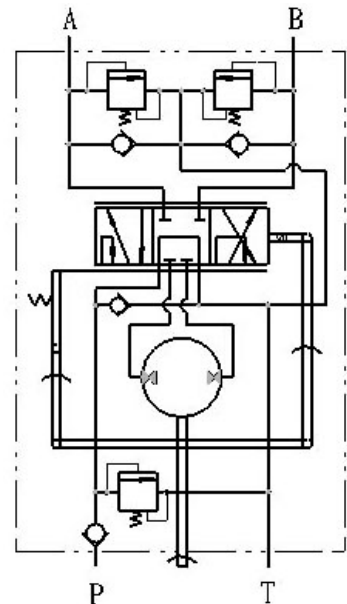

FIG 6-11 Drawing
Fig.6-11 tread adjustment for rear wheels
Rear wheels tread can be adjusted steplessly by changing and turning the fixed position of driving wheel hub on driving shaft. It can also carry out step-by-step regulation by turning rim assembly or exchanging right and left driving wheels. Adjusting range of the first step tread is L1~L2 and the L2 is the normal tread used. Adjusting range of the second step tread is L3~L4 (see fig.6-11). Values of L1~L4 see chapter 1 <Main Technical Specification of Tractor>.
2、 Drawing (fig. 6-11)